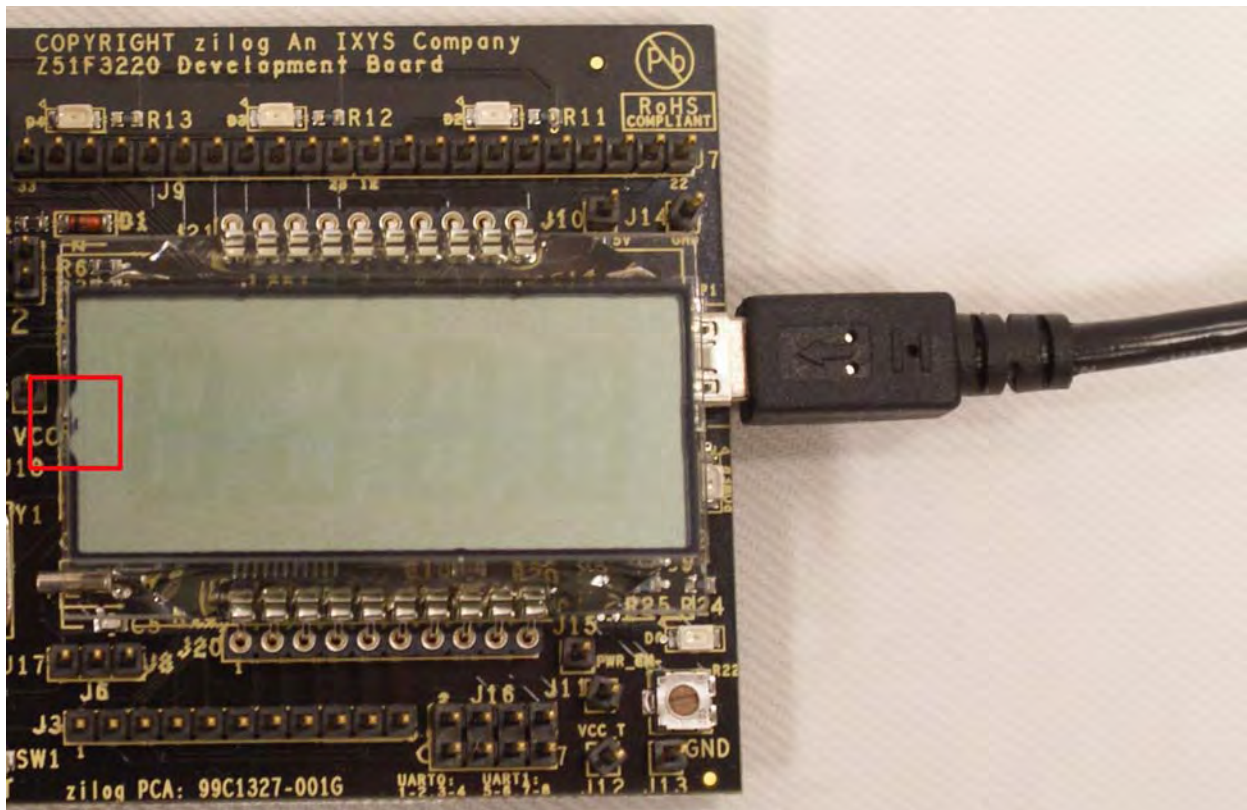

Figure 14. Connecting the USB Mini-B Cable to the Board
5. Connect the other end of this second Mini-B cable to the Z51F3220 Board's P1 connector to apply power to the Board. Note that the green LED D5 is ON; see Figure 14.
► **Note:** In the event that you later remove the LCD panel from the Board, observe its orientation in Figure 14. The panel's small plastic notch should be located in the position indicated by the red square.